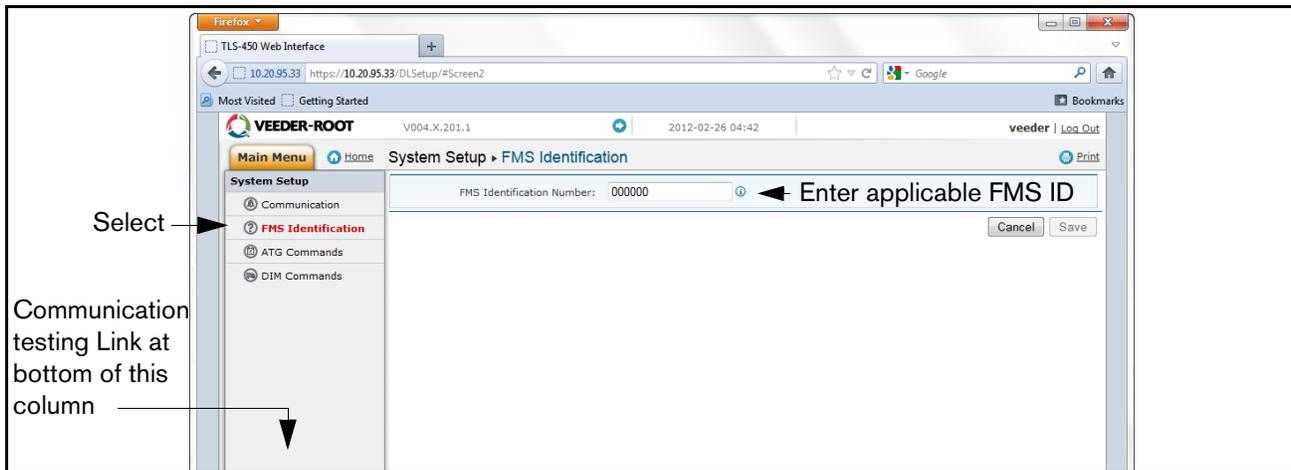

Figure B-14. Example FMS ID Entry
- Select the “FMS Identification” screen and enter the six-digit FMS site identification number. Then click on the “Save” button (see Figure B-14).